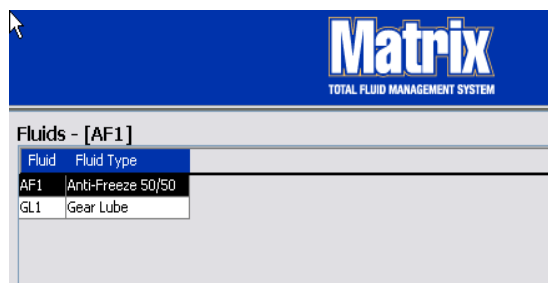

FIG. 69
5. The Fluid information displays on the Fluids screen as shown in FIG. 69.
6. To modify the name assigned to a fluid or the type of fluid assigned to a name (FIG. 69) highlight the entry listed on the main Fluids screen.